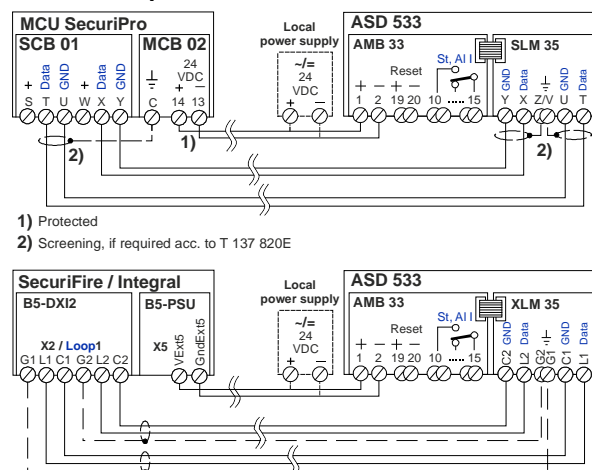

Fig. 38 Interconnection from XLM 35 / SLM 35
- The interconnection and line routing between **SLM 35** and the SecuriPro, SecuriFire and Integral FACP is to be carried out in accordance with **Fig. 38** (X to X, Y to Y and X to L2, Y to C2, etc.).
- The interconnection and line routing between **XLM 35** and the SecuriFire and Integral FACP is to be carried out in accordance with **Fig. 38** (L1 to L1, C1 to C1, etc.).